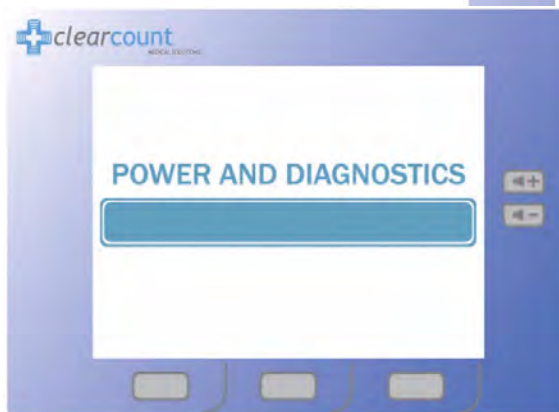

Figure 2-3 Boot-up Screens
After the on/off switch is set to on (I), the system will produce an audible tone, and the Starting screens shown in **Figure 2-3** will appear.
The Starting Screen, shown at the top of **Figure 2-3**, appears on the display first for 10 seconds after the on/off switch is set to on.
The Boot Screen, which follows the Starting Screen appears for 3 seconds. Shown in the center of **Figure 2-3**, this screen shows the versions of system firmware and the device (SmartSponge System) identification (ID).
The Diagnostic Screen, shown at the bottom of **Figure 2-3**, appears for 9 seconds. This screen has a Progress Bar that fills in from left to right in segments. When the bar completely fills in, the system produces an audible tone, and displays the Standby Screen. See **Figure 2-4**. The Standby Screen remains on the display until the user presses the ON button to start or continue a surgical case.